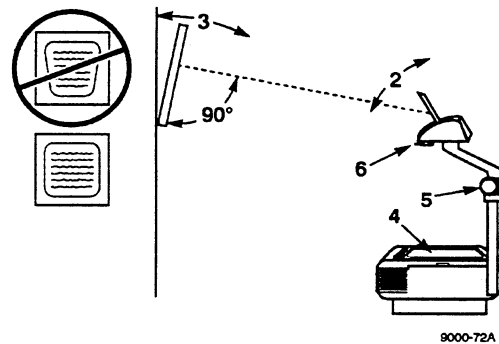

Figure 2-7. Operating The 9000
5. Adjust angle of projection mirror (2) to raise or lower the image on the screen. Figure 2-7.
6. For best results, tilt projection screen (3) toward projector until the top and bottom of the projected image appear square and without distortion. Figure 2-7.
7. Place film transparency or LCD projection panel on the stage glass (4).
9. Rotate focus knob (5) or focus lever (6) for clearest image.